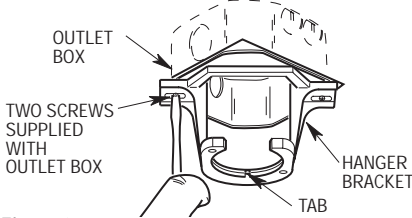
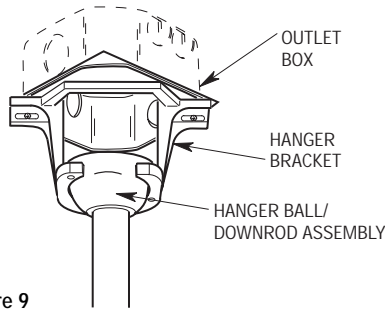

Figure 8
Figure 9
- 1. Securely attach the hanger bracket to the outlet box using the two screws supplied with the outlet box (Figure 8).
- 2. Carefully lift the fan and seat the hanger ball/downrod assembly on the hanger bracket that was just attached to the outlet box (Figure 9). Be sure the groove in the ball is lined up with the tab on the hanger bracket (Figure 8).